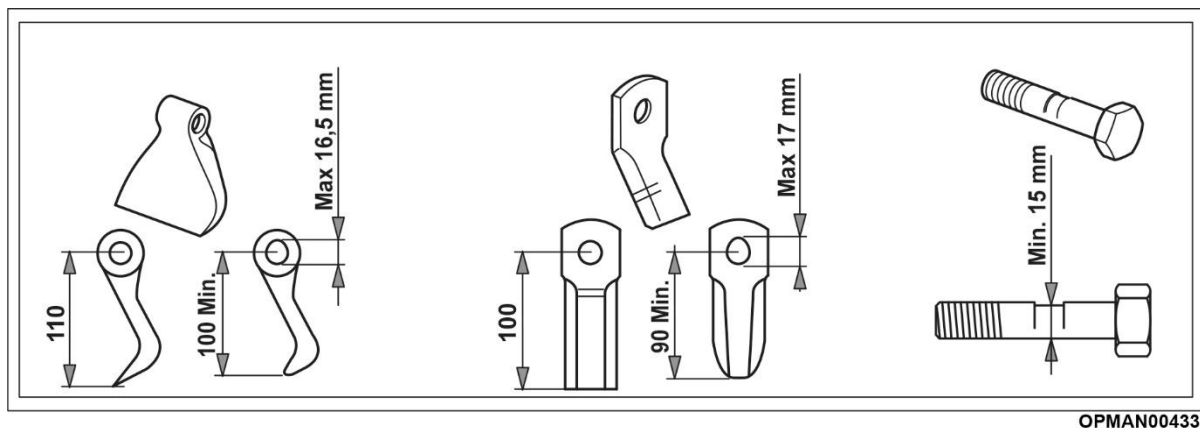

Figure 17
For worn flails and bolts (see Figure 17):
- The special bolts must be replaced to fasten the flails if visibly damaged, bent or ovalized to the limit (see Figure 17).